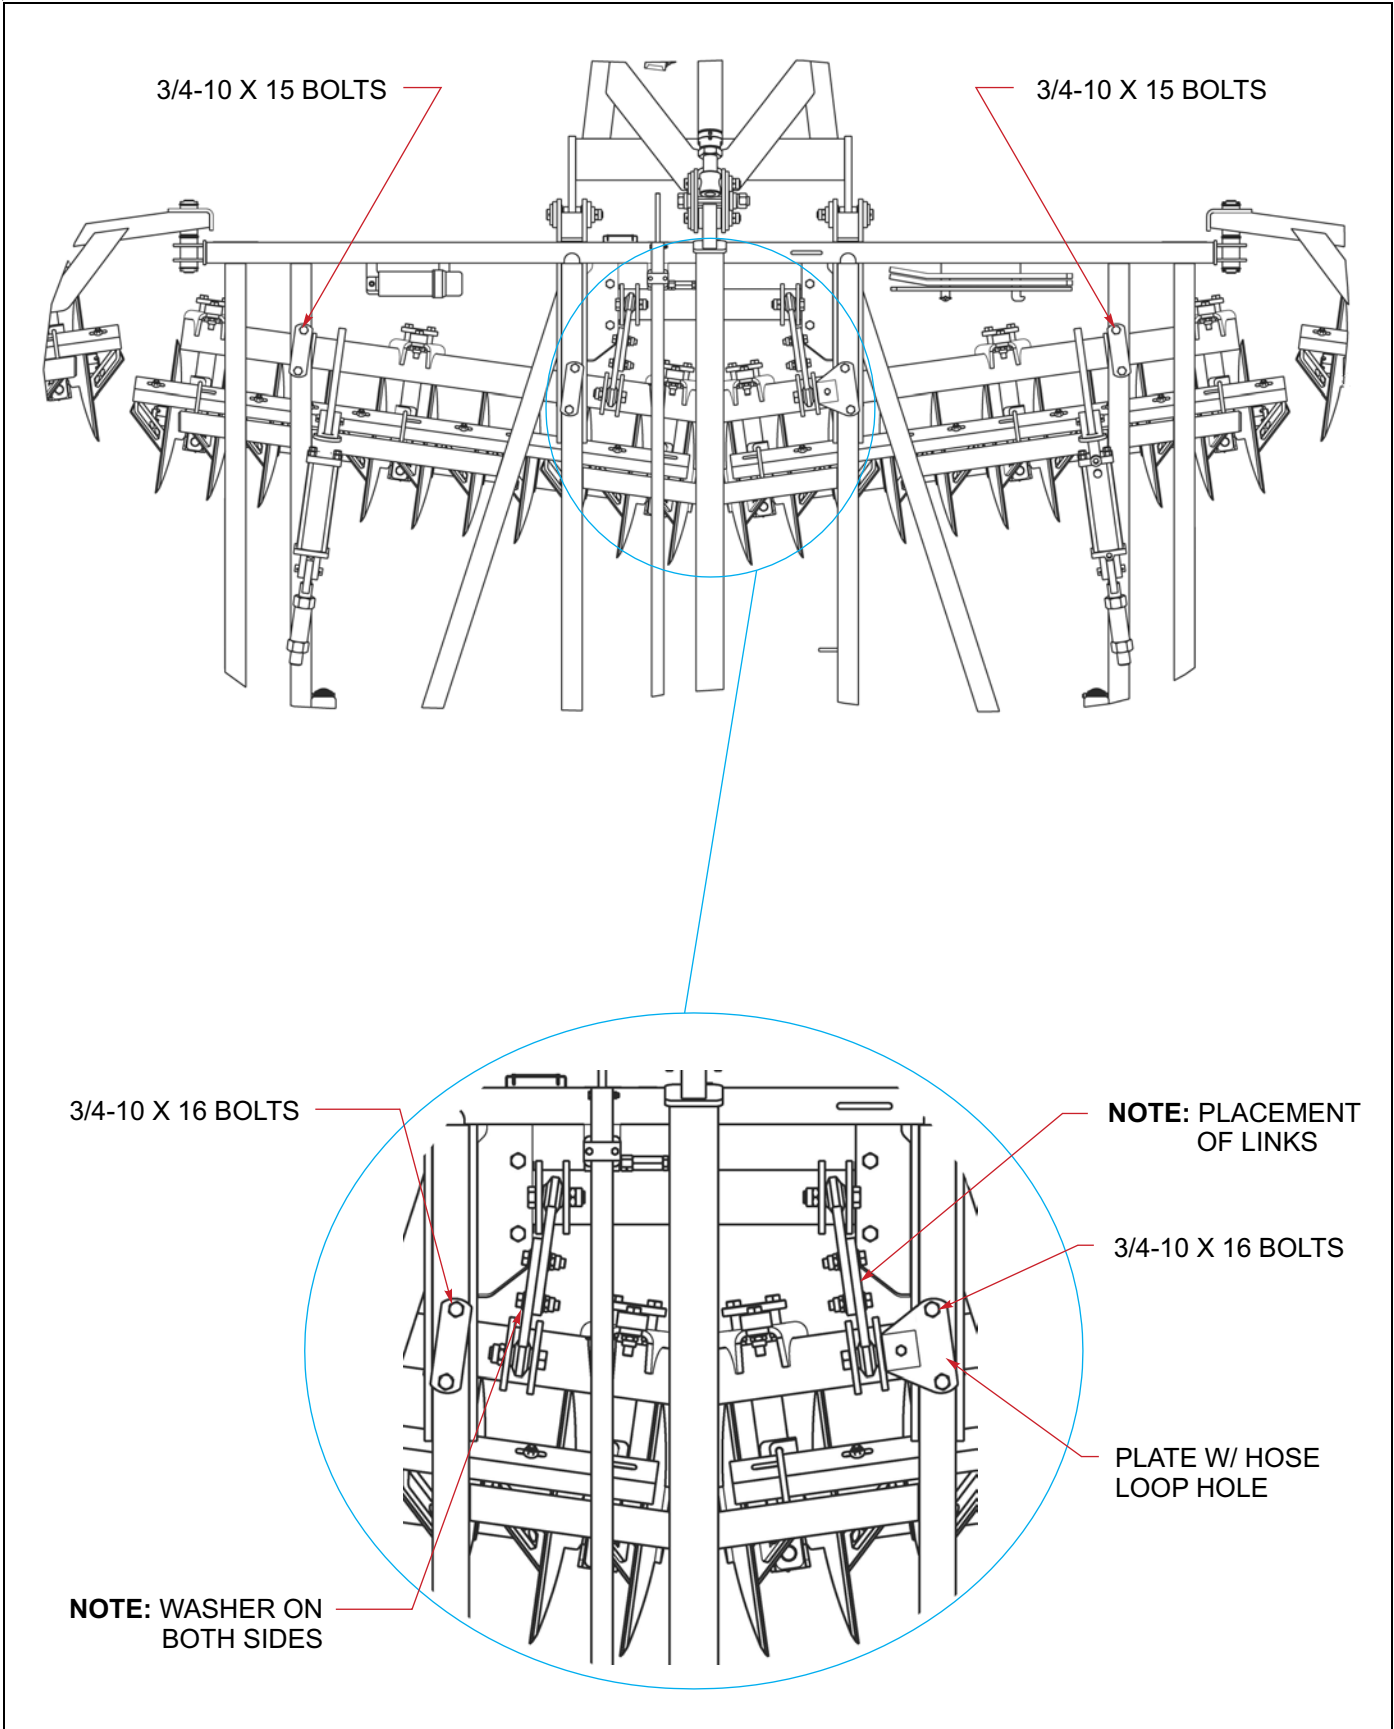

Figure 3-15: Disc Gang Installation (1 of 2)
2. Align the cylinder mounts on the disc gang assemblies with the mounts on the center frame to properly position the gangs. The 3/4-10 x 16 bolts will be used on the inner tubes of the frame and the 15" bolts will be used on the outer tubes. There will be clamp plates used on the top and bottom of the frame tubes. On the right side of the frame the inner top clamp plate will be the one with a separate hole in it to mount a hydraulic hose clamp to (See **Figures 3-15 and 3-16.**)